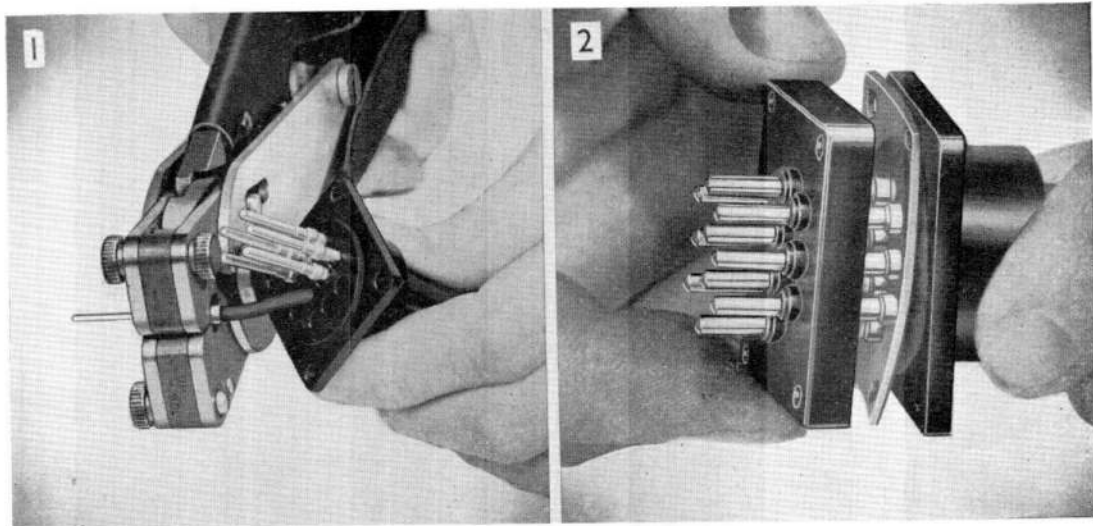

Fig. 6. Assembling a climatic-proof plug
shown in (1), fig. 6. Note that the bucket end of each pin should shroud the end of the cable insulation so that sleeving of the joint is unnecessary, although a marker will still be required. Replace the sealing gasket and feed the pins through the holes in the front moulding (2, fig. 6). Replace the next gasket and front shell, and retain the assembly with the four bolts and nuts.